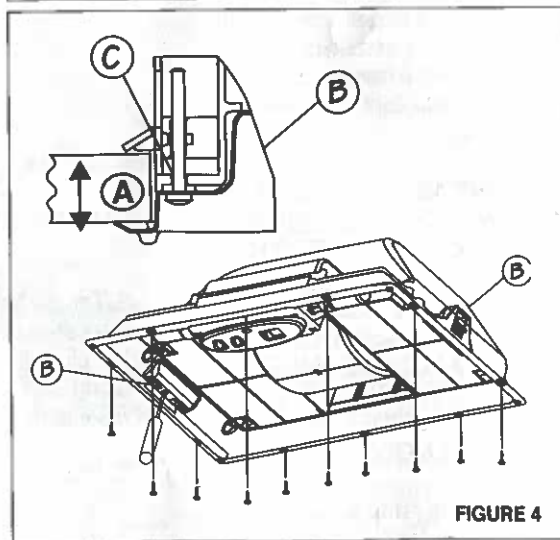

FIGURE 4
4. Fix the rangehood to the cabinet using the two spring loaded brackets, one on each side of the rangehood (**B** in **FIGURE 4**). Using a philips screwdriver, tighten the adjustment screw (**C** in **FIGURE 4**) until the brackets adhere tightly to the surface. For thicknesses of **LESS** than 3/4", insert a block of wood to fill in the gap between the cabinet bottom and the spring loaded bracket.
5. **IMPORTANT:** Also fix the rangehood to the cabinet using the 10 screws provided (**FIGURE 4**).